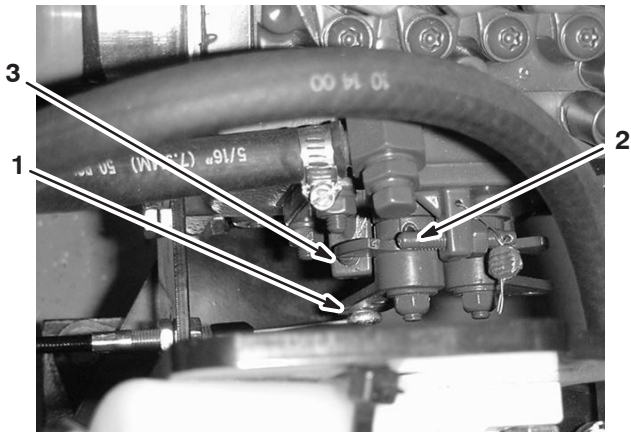
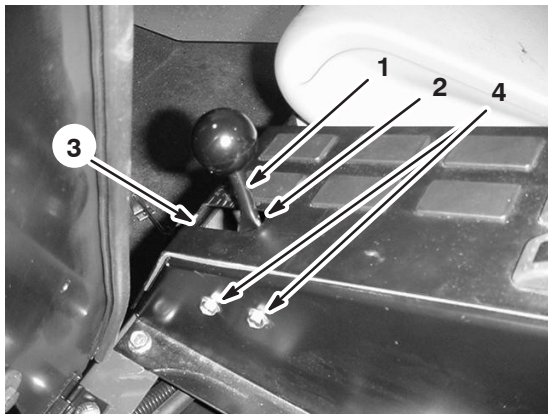

Figure 48
Figure 49
- Adjust the high-speed position by loosening the nuts on the throttle cable at the mounting plate and adjusting it so that the throttle lever is within 1/16 inch (1.5 mm) from the front end of the slot in the console when the engine throttle arm hits the high-speed stop (Fig. 48).
- Adjust the low idle by loosening the 2 bolts that mount the cable assembly to the center console (Fig. 49) and locating the cable assembly so that the throttle lever is within 1/16 inch (1.5 mm) of the rear end of the slot in the console when the engine throttle arm hits the low-idle stop (Fig. 48).